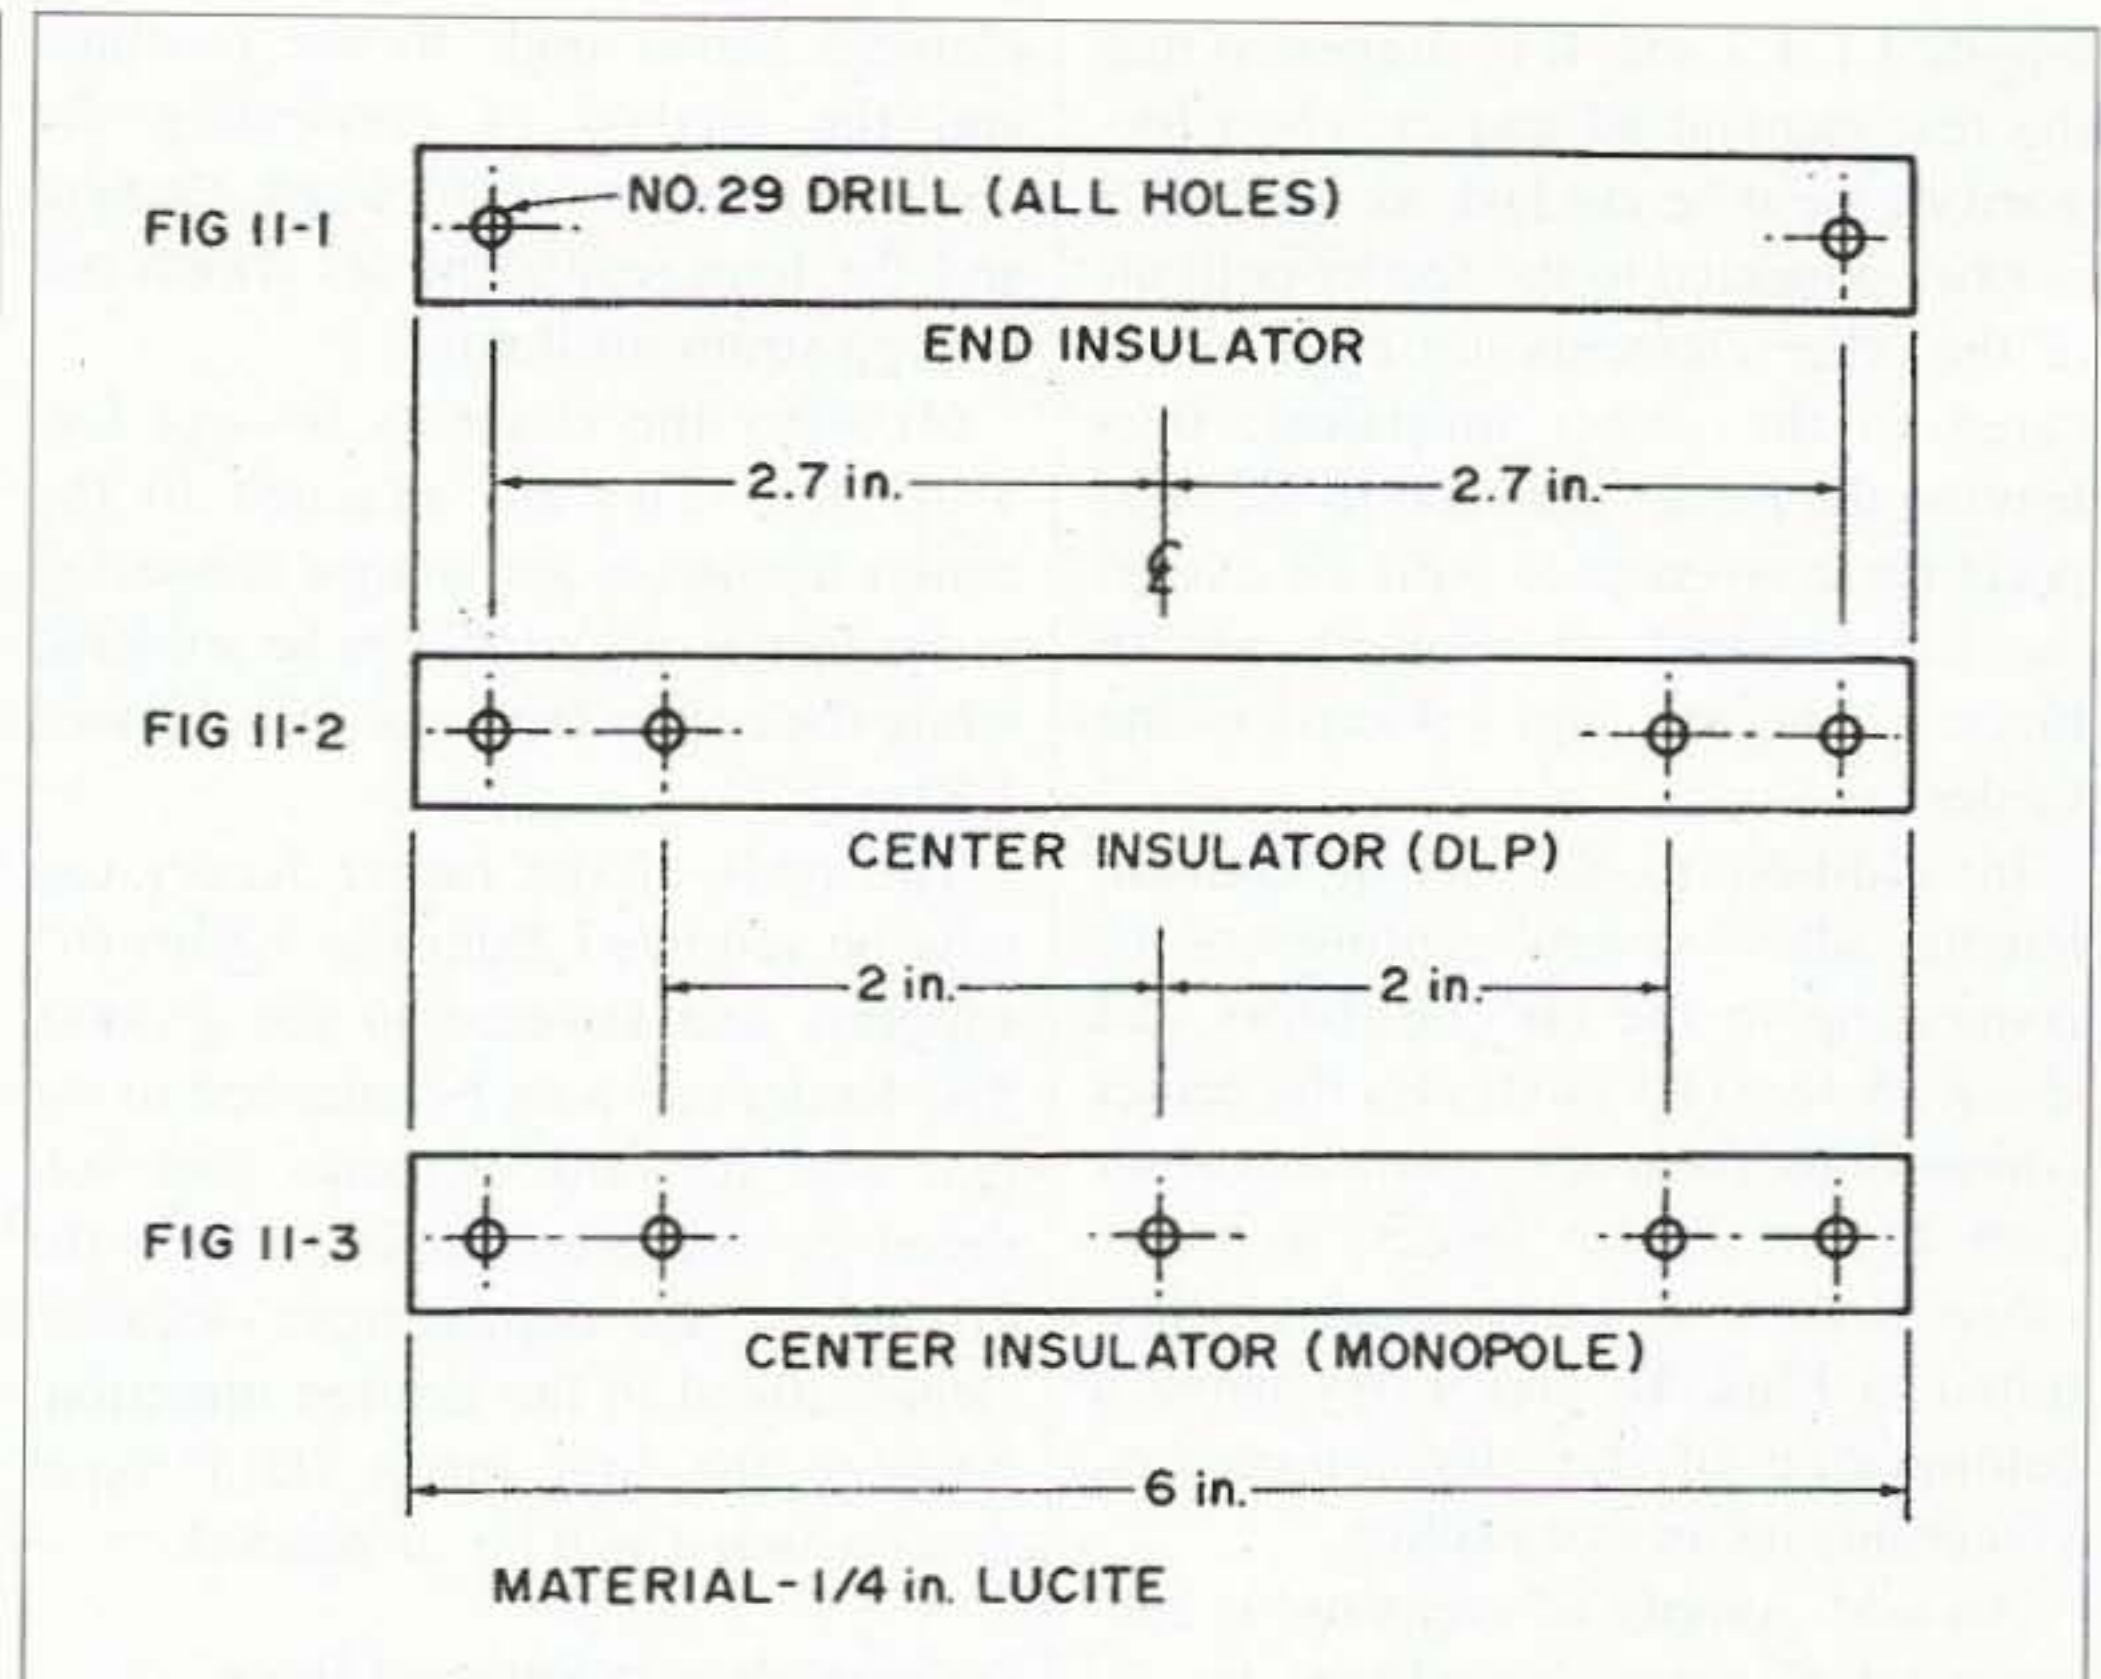

Fig. 11. Hole spacings for the insulators.
The hole spacings for above are illustrated in **Fig. 11**. These are all the same size to simplify production.
(3) After the elements are cut to the various lengths, they can be attached to the center Lucite insulators, starting with element 2. The connections from the elements to the feeders can be made after all elements (except the rear and forward elements) are secured to the center insulators. *Note that every other element is transposed, i.e., element 1, nontransposed; #2 transposed; #3, nontransposed ... etc.; or all even number elements transposed and all uneven numbers nontransposed.*
**Fig. 11** illustrates the Lucite center insulator, the transposed and non-transposed method of connecting the
the DLP type; however, the elements connected to and supported by the Lucite center insulators (**Fig. 11**) are arranged differently in that the two outside holes are for the two  $1/4\lambda$  side radials and the center hole is for the  $1/4\lambda$  vertical element. Actually the center insulator and the 2-wire feeder are suspended by the 5 vertical radiating elements and they in turn by the single catenary line. **Fig. 10** illustrates these elements, showing the jumper connection between the two side radials. Transposition or the "criss-cross" feed is accomplished as illustrated in **Fig. 10**.